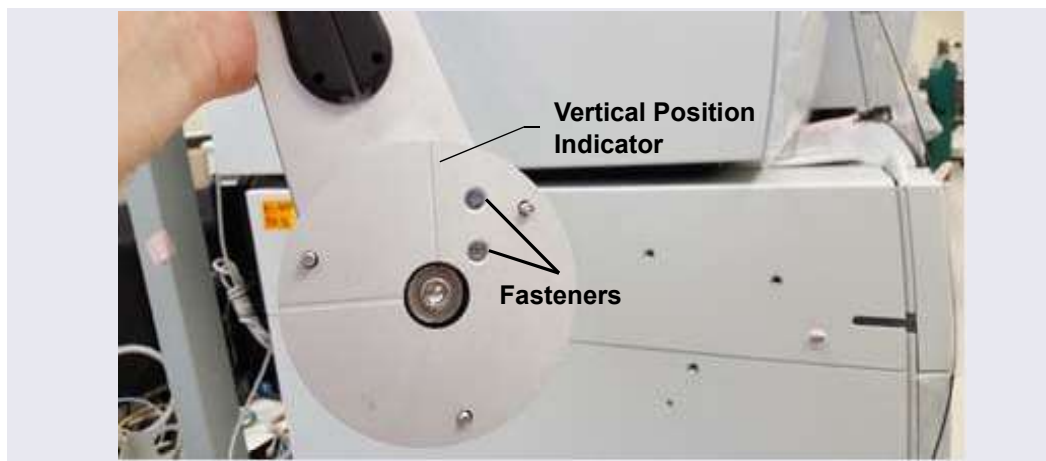

Figure 3-28. *Position Indicator on the Tablet Mounting Arm/Holder*
- a. Note the two lines molded into the base of the tablet mounting arm, on the inside of the arm (the side of the arm which is installed against the DC). When installing the mounting arm, make sure the line to the left of the two fasteners (see Figure 3-28) is in the vertical position.